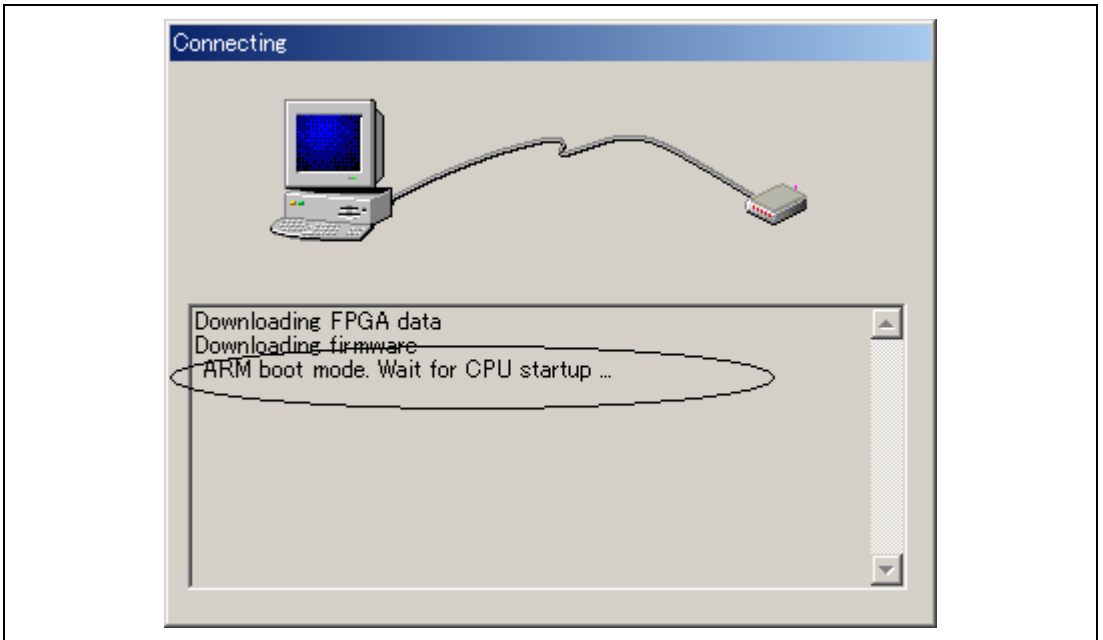

Figure 2.1 [Connecting] Dialog Box
- (1) When the emulator is activated, the message shown in figure 2.1 is displayed and remains on display until the CPU is taken out of the module-stopped state.